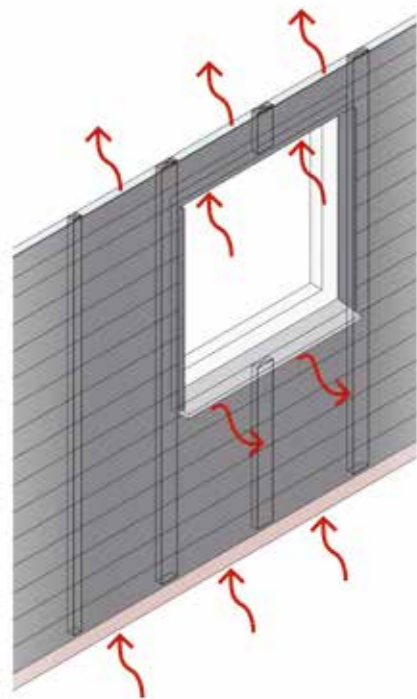

fig.1 – Ventilated Rainscreen
- The cavity should not be closed off at the top or the bottom, or at door or window sections (see fig.1)